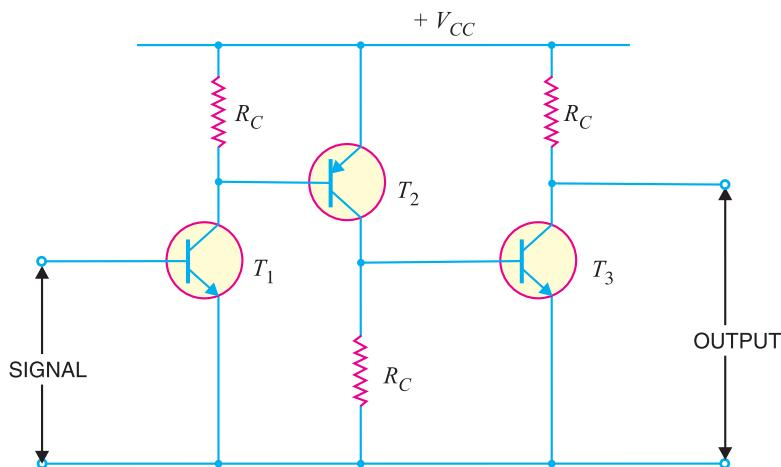

Fig. 11.19
**Circuit details.** Fig. 11.19 shows the circuit of a three-stage direct-coupled amplifier. It uses \*complementary transistors. Thus, the first stage uses *npn* transistor, the second stage uses *pnp* transistor and so on. This arrangement makes the design very simple. The output from the collector of first transistor  $T_1$  is fed to the input of the second transistor  $T_2$  and so on.